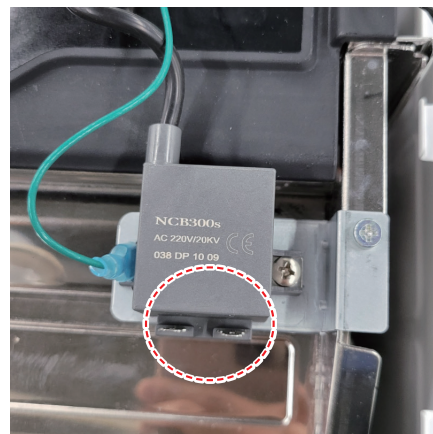

Figure 9
5. Refer to figure 9 and disconnect the wiring connector from the Ignition Transformer.